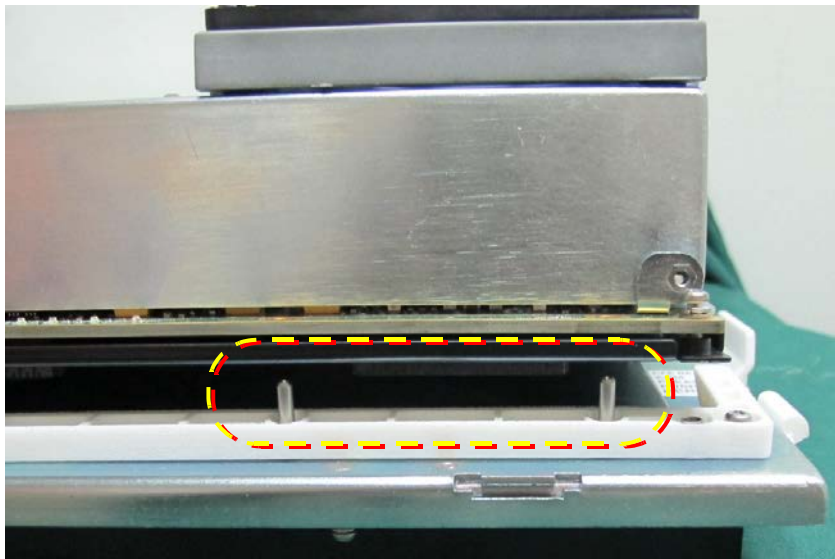

Figure 8-141 CFE Board Aligned on Guide Pins
- 2.) Gently align the new CFE Board on the guide pins located on the base of the Cage (Figure 8-141 below) and lower the CFE Board into position.